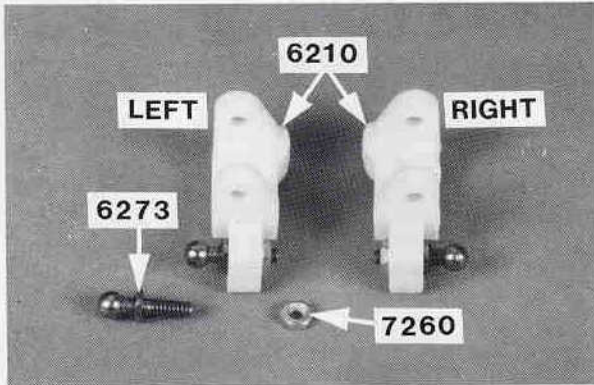

Fig. 1
Fig. 1 Read pages four and five entirely before proceeding! From bag #6-14 remove two #6273 long ball ends and two #7260 4-40 small thin plain nuts. Now open bag #7-1 and remove the #6210 30° front carrier blocks. (1) Remove the carrier blocks from the small molded runner with your X-acto® knife. (2) Screw one of the #6273 ball ends into each carrier block as shown. (3) Thread on the #7260 thin plain nuts. (A 3/16" nut driver installs the steel ball ends easier.)